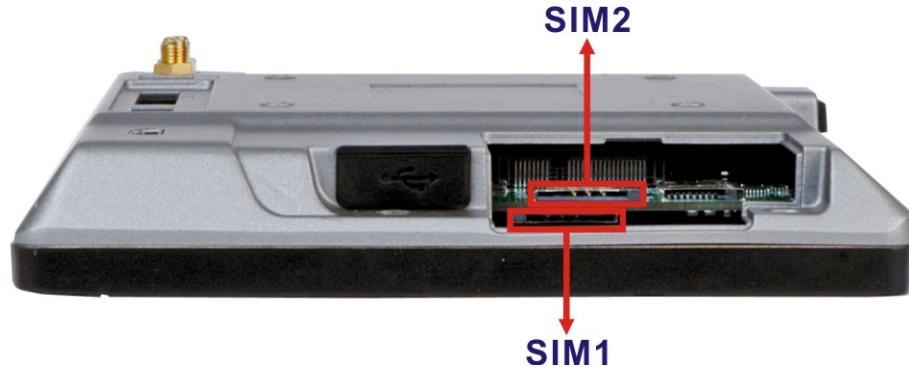

Figure 3-4: SIM Card Slot Locations
Step 2: Locate the SIM card slots. The IKARPC-07A-BT has two SIM card slots (**Figure 3-4**). Insert a SIM card into the slot to install it. To remove the SIM card, push the SIM card to release it.